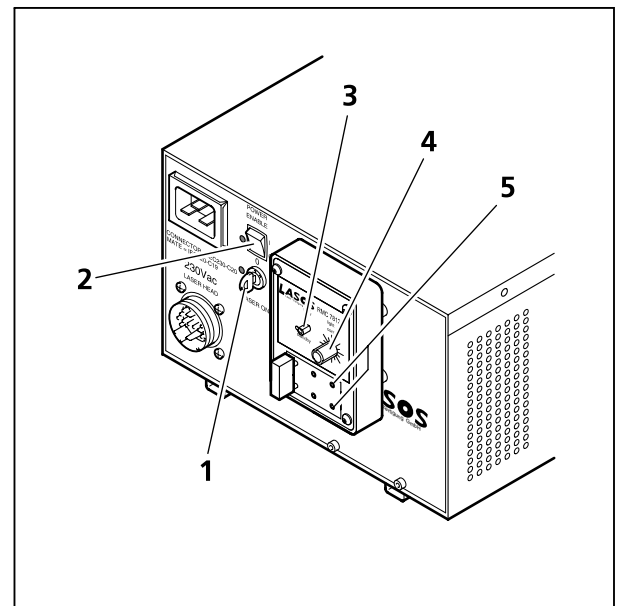

Fig. 2 Power supply of Ar-ML laser
- If the Ar-ML laser is required, turn the key (Fig. 2/1) and switch it on via the toggle switch (Fig. 2/2) on the power supply.
- After about 10 min. switch from standby to run by the switch (Fig. 2/3).
- Adjust the required power level with the control knob (Fig. 2/4) (default position should be 11 O'clock).